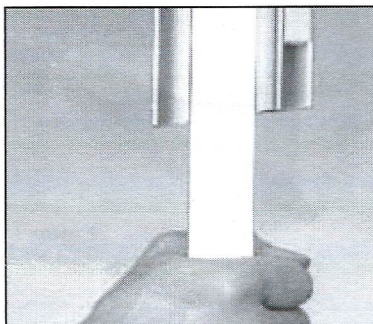

Figure 13
1. Insert the bottom filler into the jamb hardware assembly by sliding it into its respective channel. See figure 13.